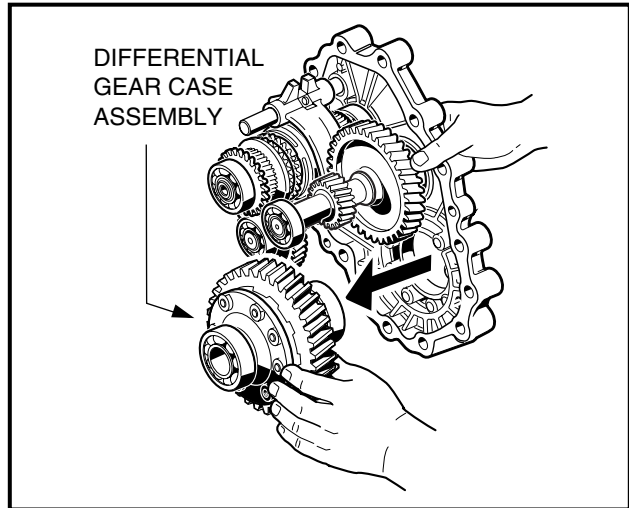

Figure 6-7 Remove Differential Gear Case
- When all the gear assemblies are slightly loosened, remove the differential gear case assembly by gently rocking it while pulling it from the case (**Figure 6-7, Page 6-5**).